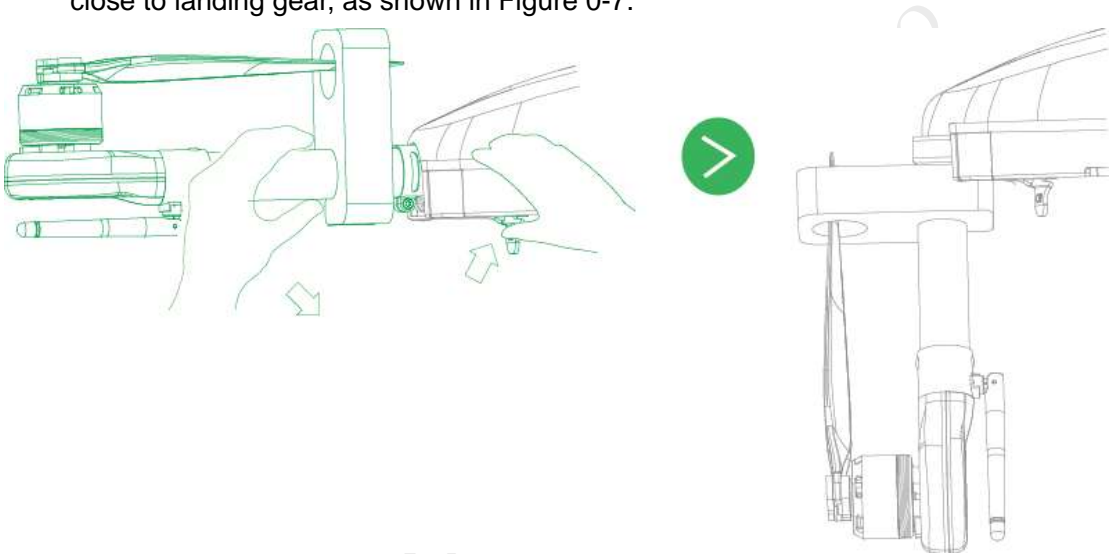

Figure 0-7
Step 3 Hold the arm with hand, move the arm wrench, fold the arm downwards and keep it close to landing gear, as shown in Figure 0-7.